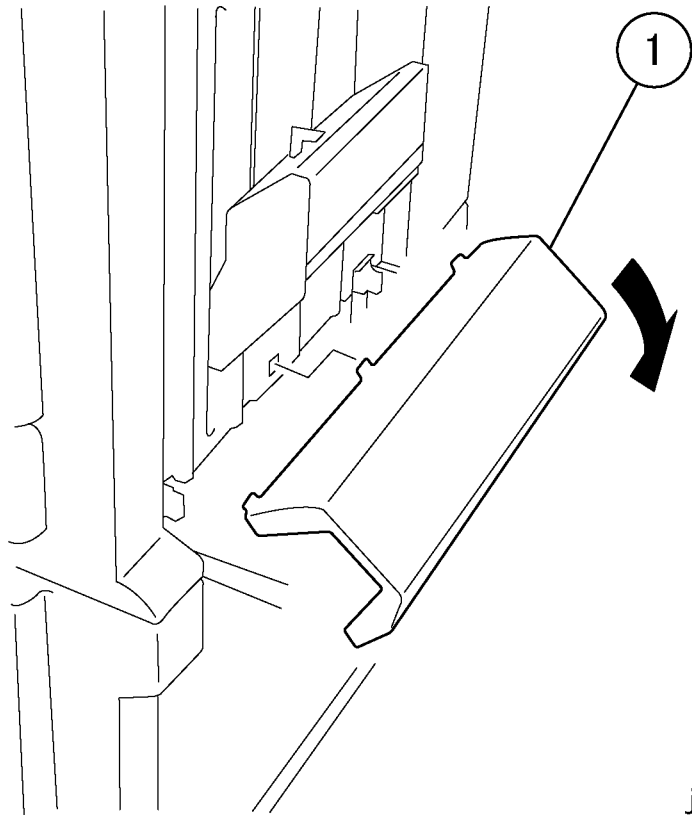

Figure 2 Removing the Right Cover (j0st41654)
3. Remove the Right Cover. (Figure 2)